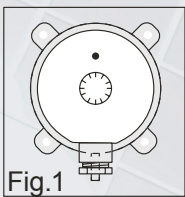

Fig.1
1. Mount the air flow switch on a flat surface ideally in a clean dry environment, but can be mounted externally. Mount the switch in vertical plane so that the nozzles are pointing down (as shown in fig.1).